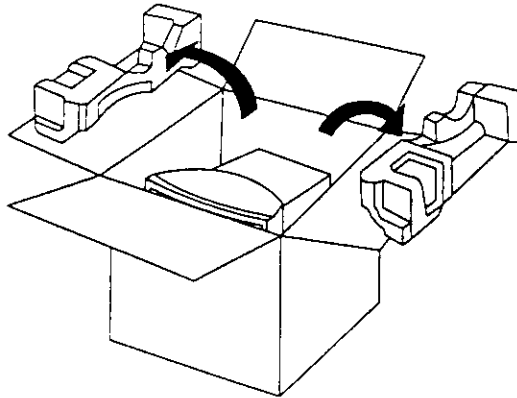

Figure 1
2. Remove the monitor from its shipping carton (see figure 1).